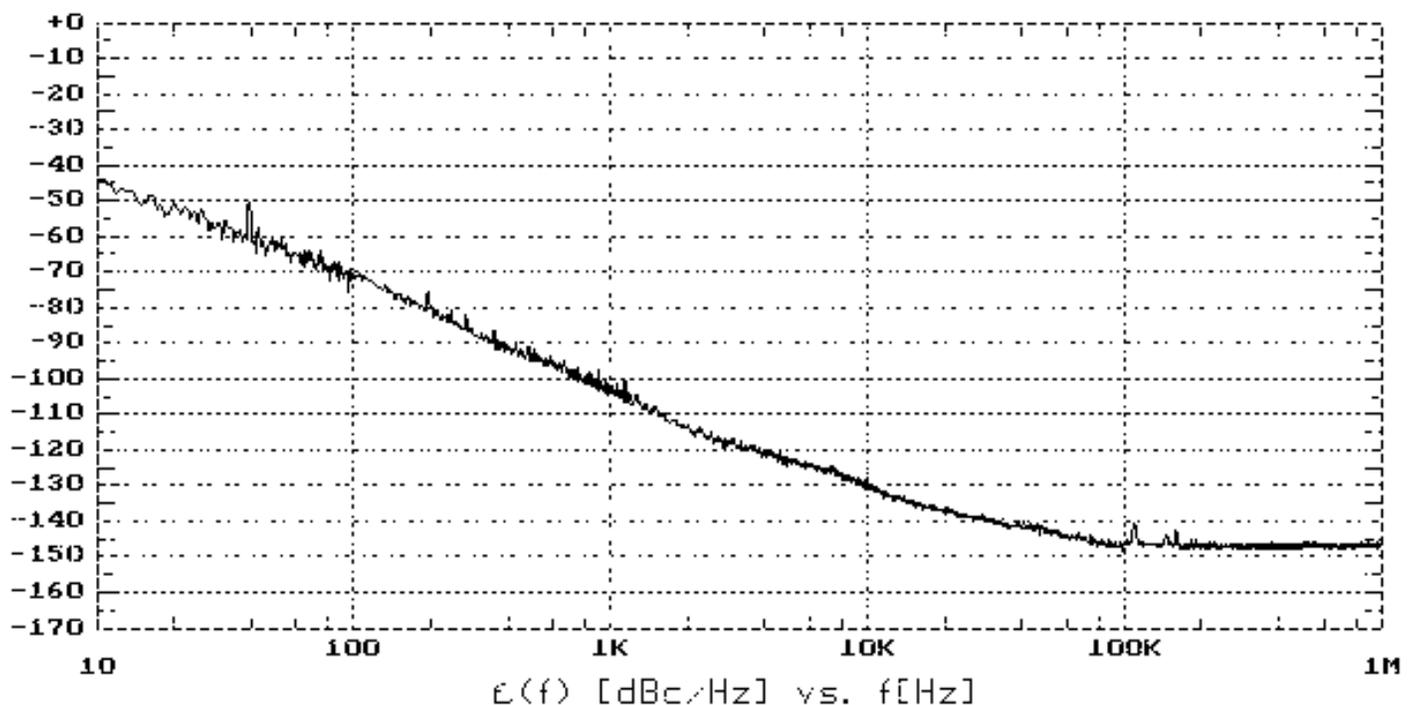

Figure 1
*Low Jitter and Phase Noise* - low clock jitter (or low phase noise in the frequency domain) is critical to achieving low bit error rates in optical data communications systems. The OP4012B provides very low free-running jitter and phase noise as shown in Figures 1 and 2. This makes the OP4012B an excellent reference for the generation or regeneration of low-jitter clocks and data streams. The OP4012B achieves this performance over its full -40 to +85 °C operating temperature range using RFM's patented SAW oscillator architecture.